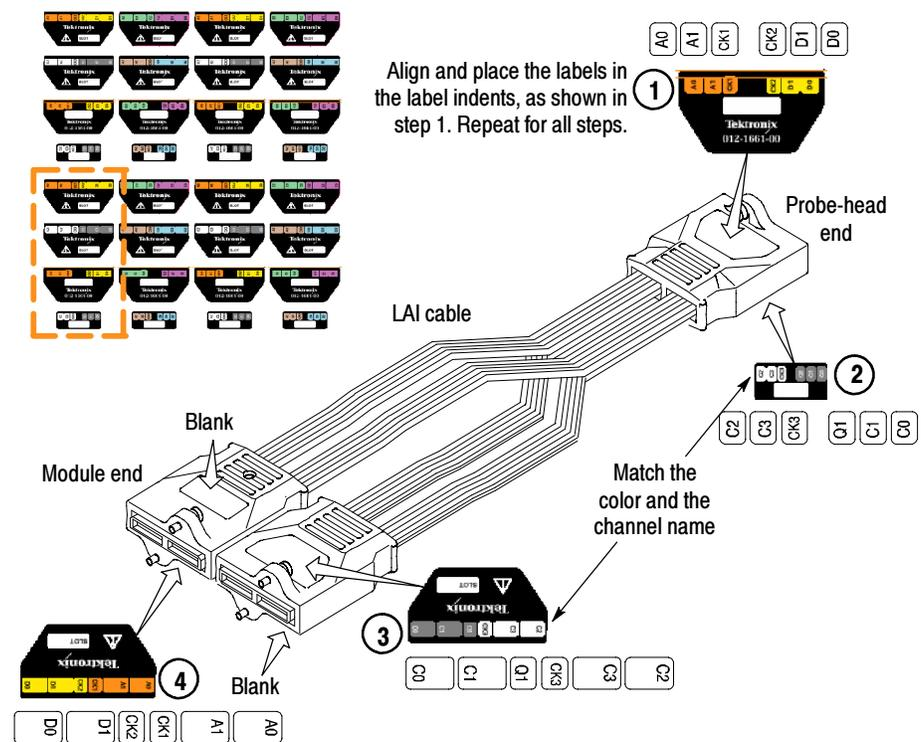

Figure 9: Apply LAI labels
2. Follow the steps in Figure 9 while attaching the the labels.